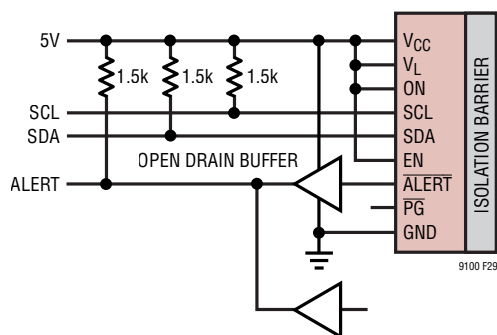

Figure 29. Open Drain Buffer for Shared ALERT Bus
Any of eight distinct I²C bus addresses are selectable using the three-state pins ADRO and ADR1, as shown in Table 2. Note that the configuration of ADRO = L and ADR1 = H is used to enable the single-wire broadcasting mode. For the eight I²C bus addresses, address bits b7, b6 and b5 are configured to (001) and the least significant bit b0 is the R/W bit. In addition, the LTM9100 will respond to two special addresses. Address (0011 111) is a mass write used to write to all LTM9100s, regardless of their individual address settings. Address (0001 100) is the SMBus alert response address. If the LTM9100 is pulling low on the $\overline{\text{ALERT}}$ pin, it will acknowledge this address using the SMBus alert response protocol. Note, if multiple LTM9100's are configured to share a single ALERT bus then the addition of an open drain buffer is necessary, see Figure 29.